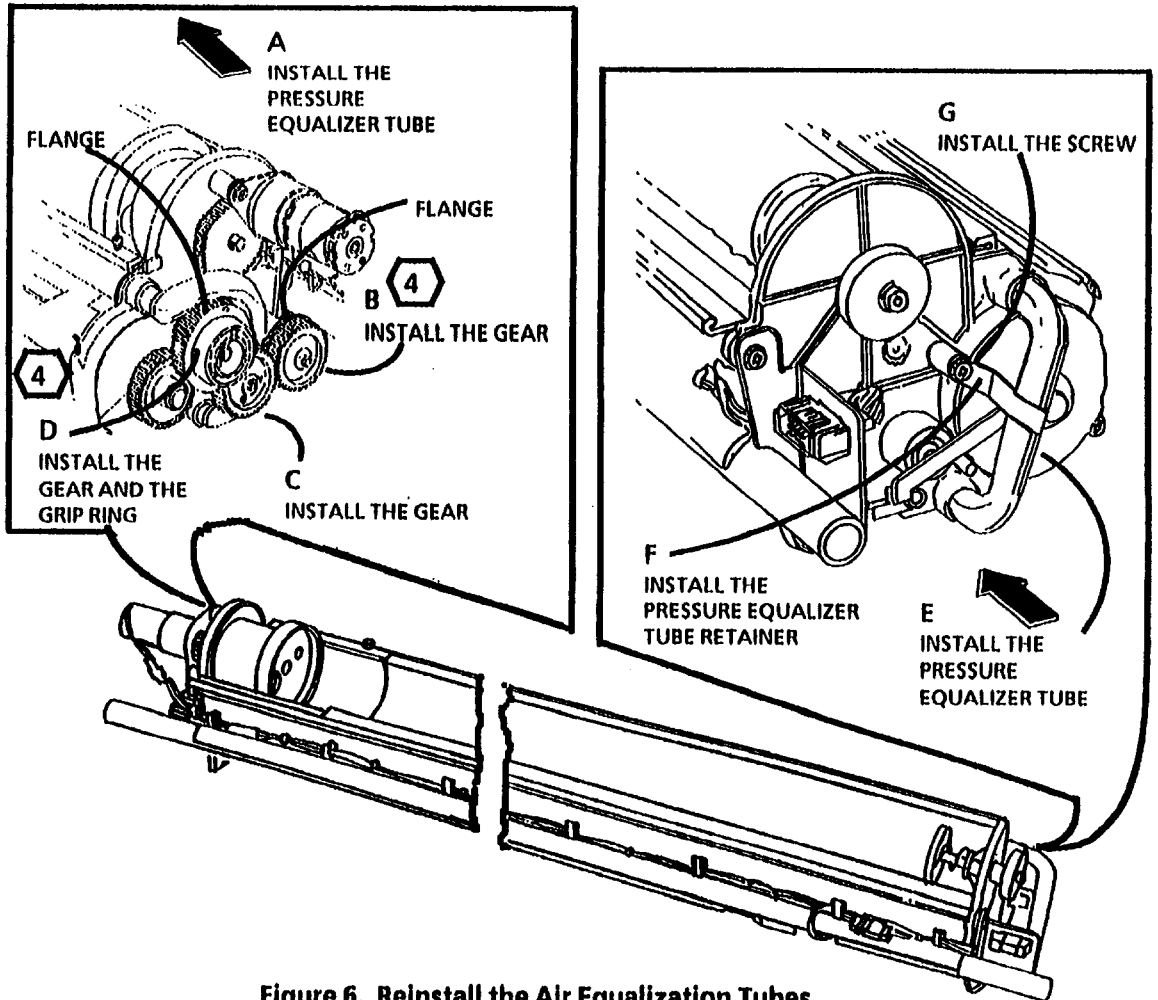

Figure 6. Reinstall the Air Equalization Tubes
1. (Figure 6): Reinstall the Pressure Equalizer Tubes.